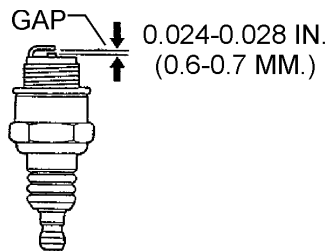

Figure 17. Spark Gap
- Remove and clean the spark plug (Figure 17), then adjust the spark gap to 0.024 ~0.028 inch (0.6~0.7 mm). This unit has electronic ignition, which requires no adjustment